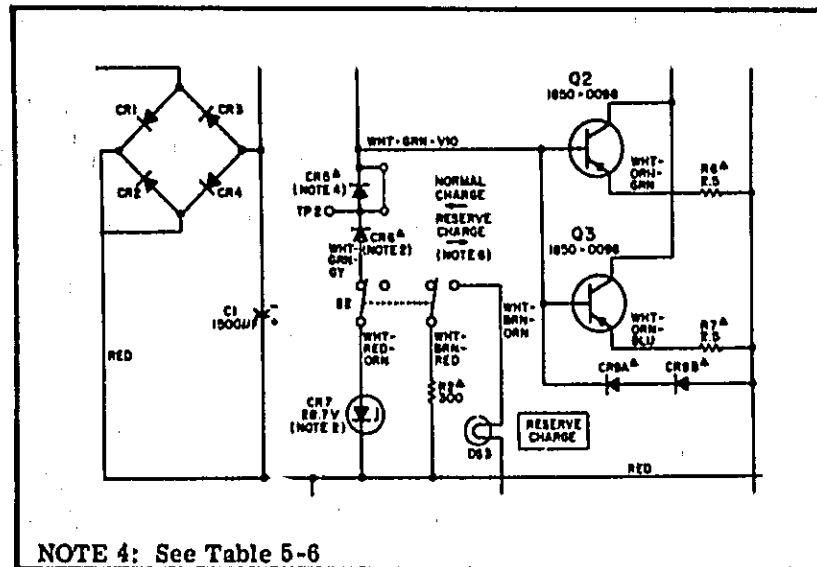

Figure IA-1. Partial Schematic
- Page 5-11, 5-12, Fig. 5-4: **Delete R18. change DS3 and S2 nomenclature. Add CR5, CR6, CR7, and relocate TP2 as shown on Figure IA-1. Change 05085-6012 in NOTE 3 to 05085-6001.**
- a. At top end of R18, delete (V).
- c. Label pin next to J as (V).